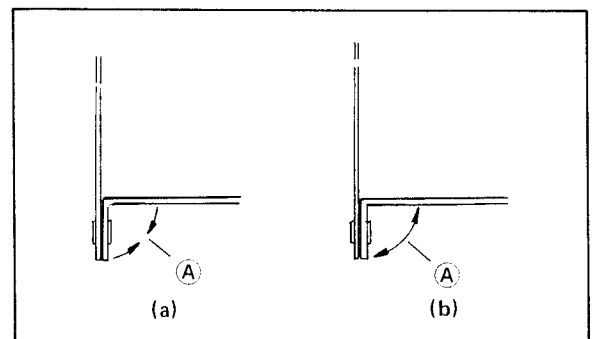

Fig. 5-10
7. If measured take-up loading tension is greater than 40 grams, bend the take-up loading brake lever at point (A) little by little as shown in Fig. 5-10(a).
8. If measured take-up loading tension is less than 30 grams, bend the take-up loading brake lever at point (A) little by little as shown in Fig. 5-10(b).